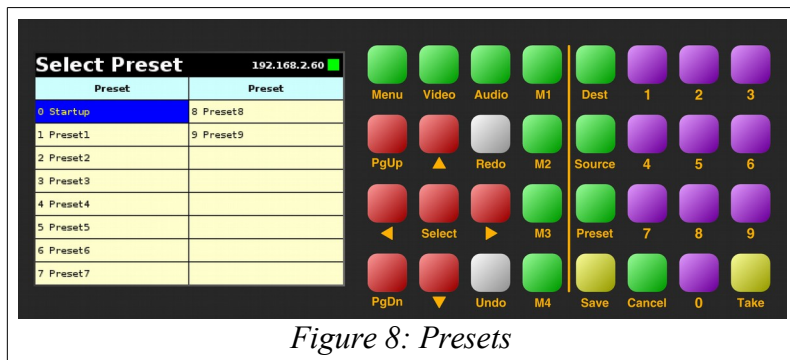

Figure 8: Presets
1. Press the **Preset** button which will bring up the **Select Preset** page as seen in Figure 8. Pressing the **Cancel** button or 20 seconds of inactivity will cancel **Preset Mode** and return to the **Routing** page.
1. Press the **Preset** button which will bring up the **Select Preset** page as seen in Figure 8. Pressing the **Cancel** button or 20 seconds of inactivity will cancel the Preset mode.